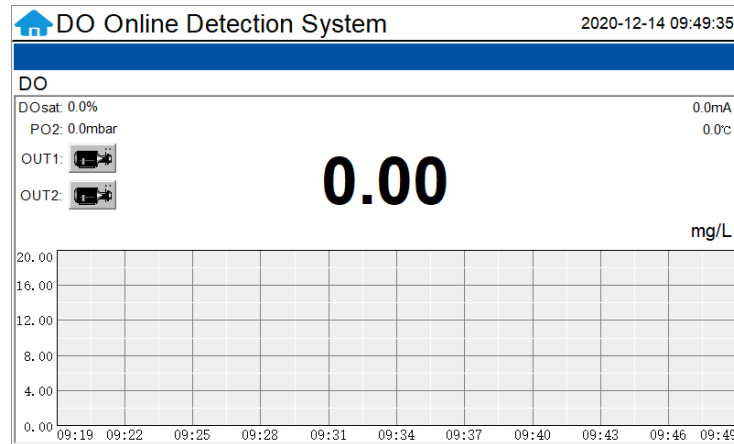

Figure 4. Main Screen
Click **Enter** button on the initial screen to launch the real-time monitoring screen, where the measured dissolved oxygen (DO) value in ppm (mg/L), % saturation, partial pressure (mbar), temperature of the water sample, and the trend chart are displayed. The status of the two relays is also shown. Press on an area of the trend chart for 3 seconds and release, an interface will be launched. The Y-range can be adjusted in the interface. See Figure 4.